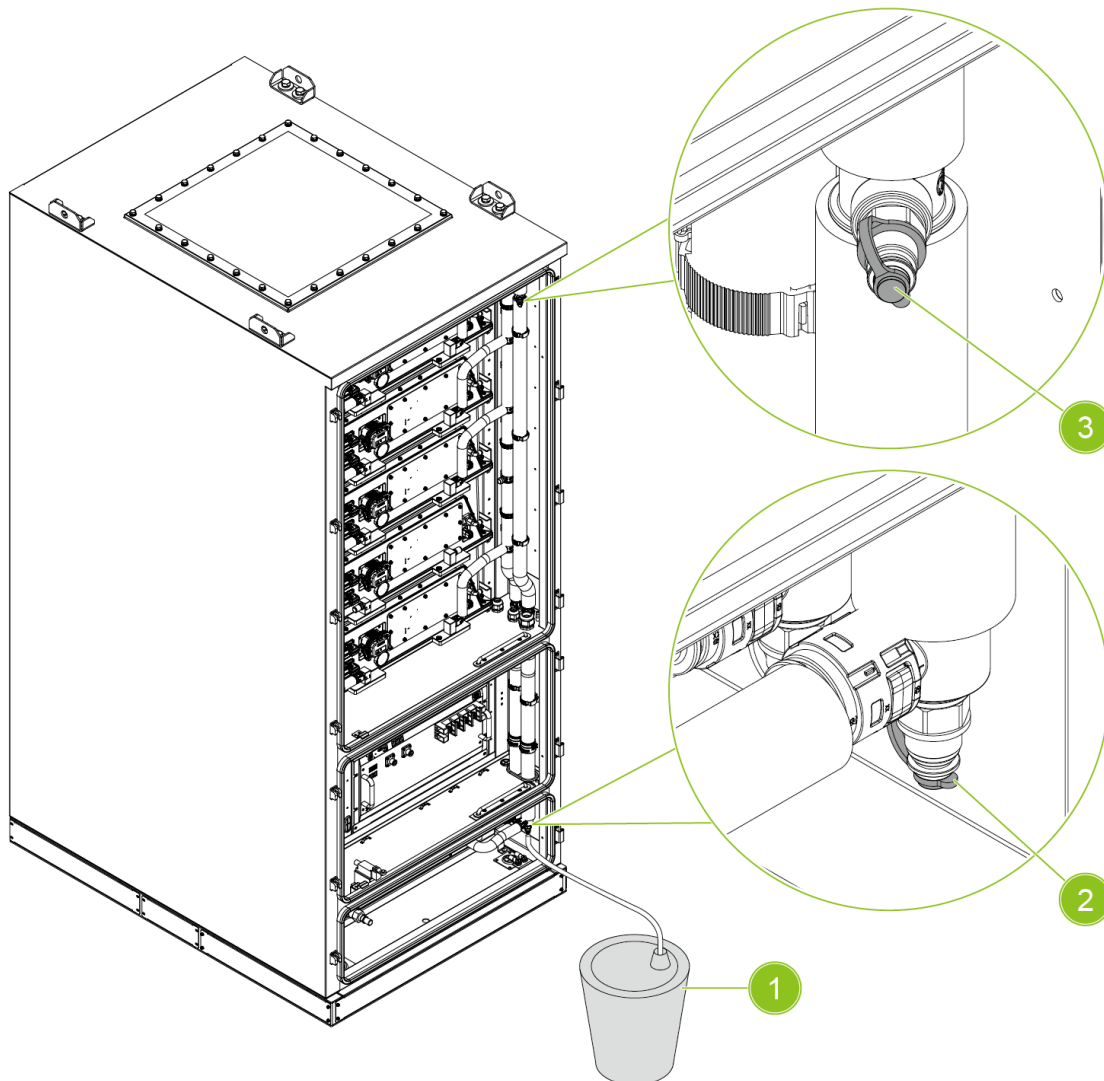

Fig. 9-7 Drain the coolant
2. Turn left to tighten and close the air exhaust valve on the cooling pipeline, refer to Fig. 9-7 Drain the coolant.